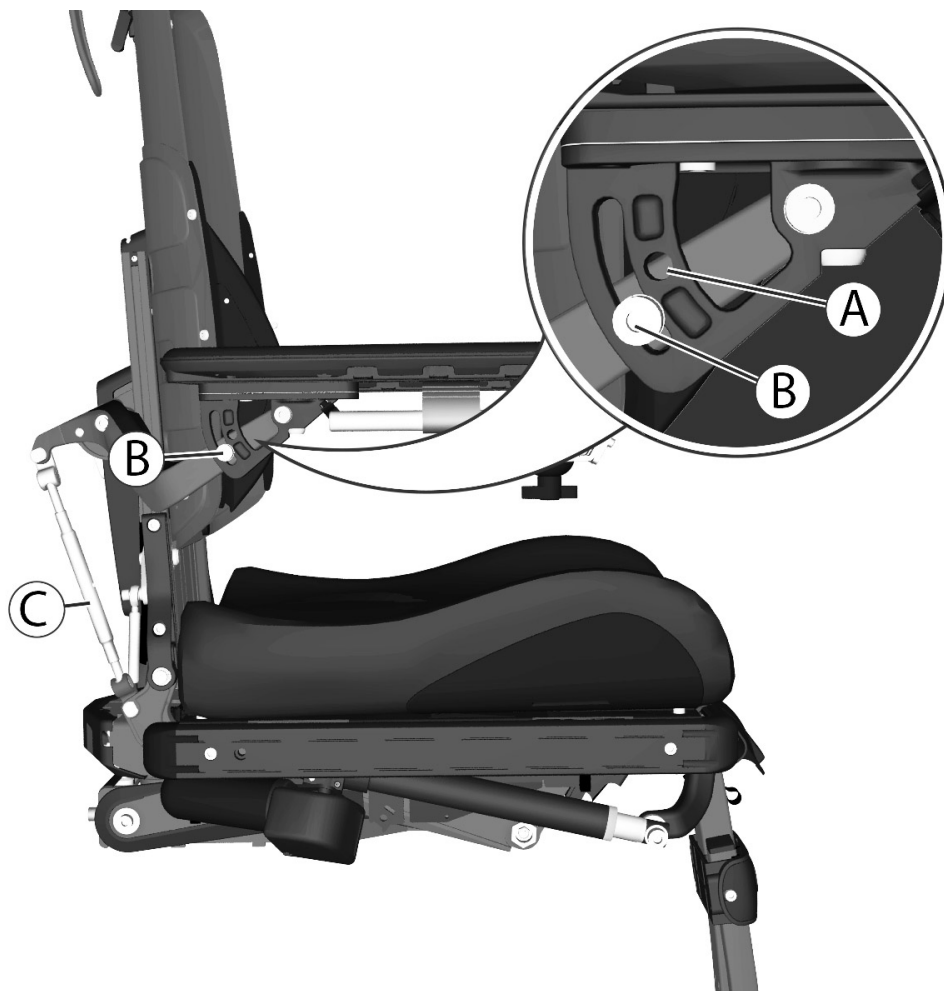

Figure 255. Individual adjustment of the armrest height and angle.
1. Adjust the armrest height by turning the adjustment bars (C). See fig. 255.
2. The angle of the armrest is secured using a screw. Move the screw from a fixed position (A) to a flexible position (B). See fig. 255.
3. Adjust the armrest to the required angle and secure by tightening the screw. See fig. 255.